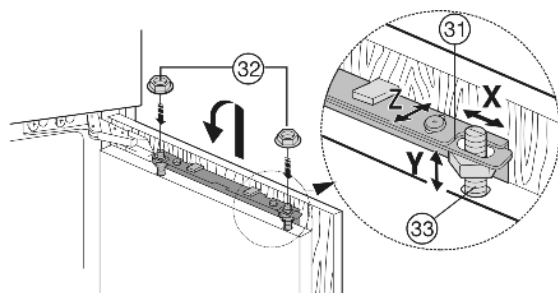

Fig. 27
- ▶ Attach the unit door to the adjusting bolts Fig. 27 (33) and loosely screw the locknuts Fig. 27 (32) onto them.
- ▶ To align the unit door in height and lateral inclination: set the adjusting bolts Fig. 27 (33) with a screwdriver.
- ▶ Tighten counter nuts Fig. 27 (32).